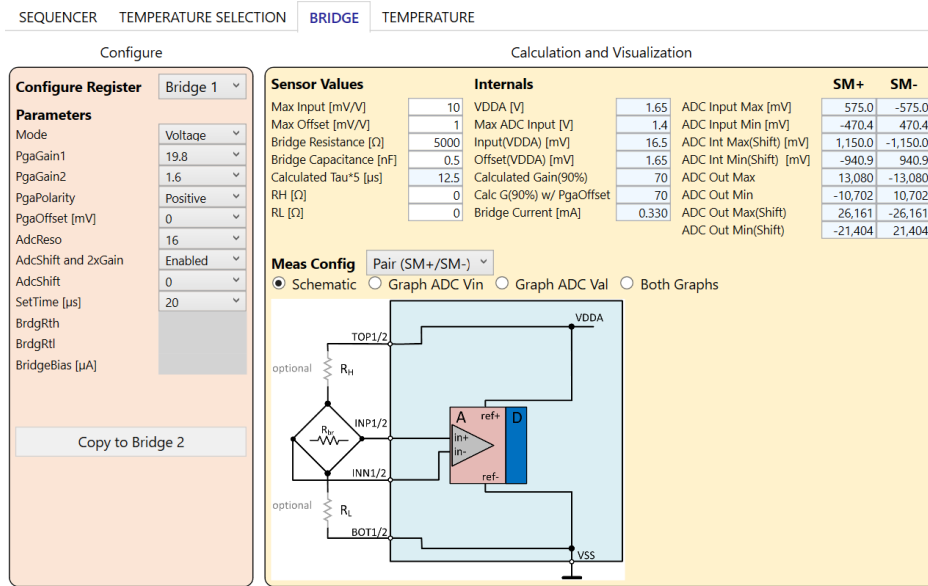

Figure 38. Voltage Mode
- Voltage: internal voltage supply (VDDA, Reference 3) (Figure 38).